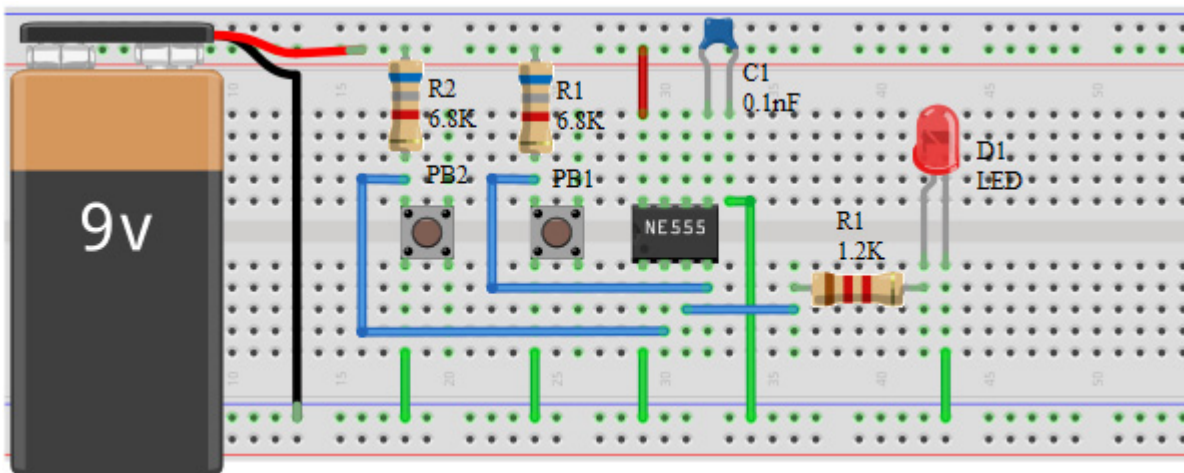

Figure 8-16: Bistable 555 timer circuit connection
1. Connect the circuit as illustrated in figure 8-16. Connect power (positive) and ground (negative) to pin 8 and pin 1 respectively. Leave pin 7 floating. Connect a 0.1nF ceramic capacitor C_1 between pin 5 and ground. Connect 6.8K Ω resistor between pin 2 and VCC and between pin 4 and VCC. These are pull-up resistors which maintain pin 2 and pin 4 high by default. Connect the momentary switches PB_1 and PB_2 between ground and the rest and trigger pins. Use jumper wire to connect pin 2 and pin 4 to two momentary switches (PB_1 and PB_2) connected to ground. When each of the push button is pressed it will cause its corresponding pin to go low (ground) for a short time.